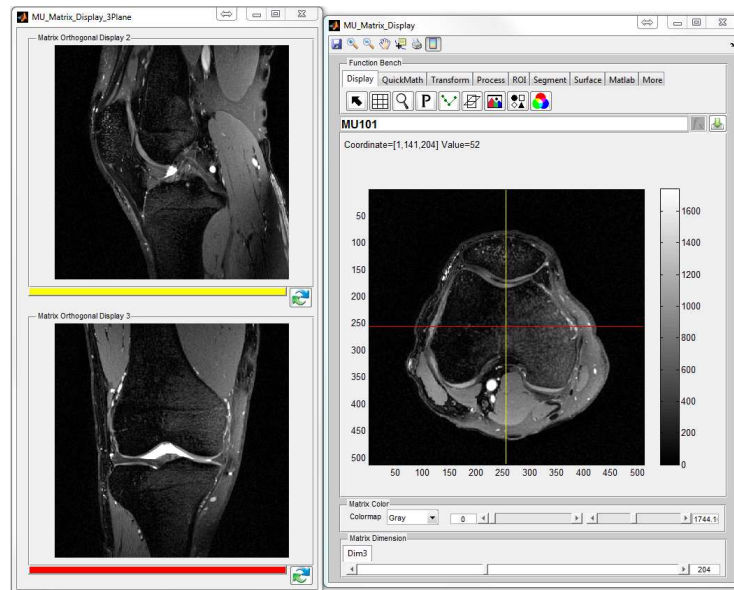

Figure 6.9: 3D Slicer. To change view slice, the user needs to activate localizer line and then click on desired coordinate on the main display window.
-  : Open a separate window with two matrix display axes (Figure 6.9) displaying another two orthogonal images. The operation buttons on the second window consists of